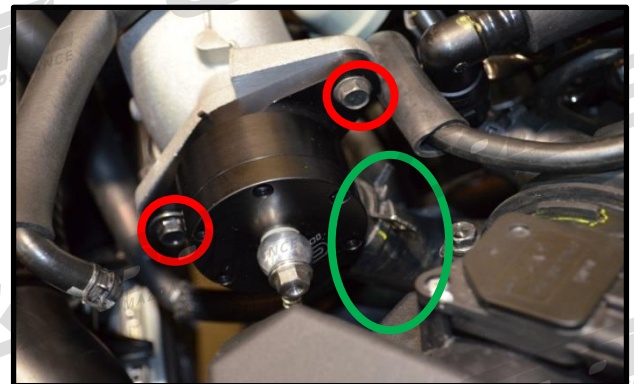

Figure 2b
- b) Insert the bypass valve back into the large bypass to intake hose and move the large spring clamp back into place (green oval **Figure 2b**).
- c) Reinstall the two 10mm bolts removed previously (red circles Figure 2b). Take care not to disturb, or accidentally fold over the gasket. Fasten the 10mm bolts to 7ft lbs.